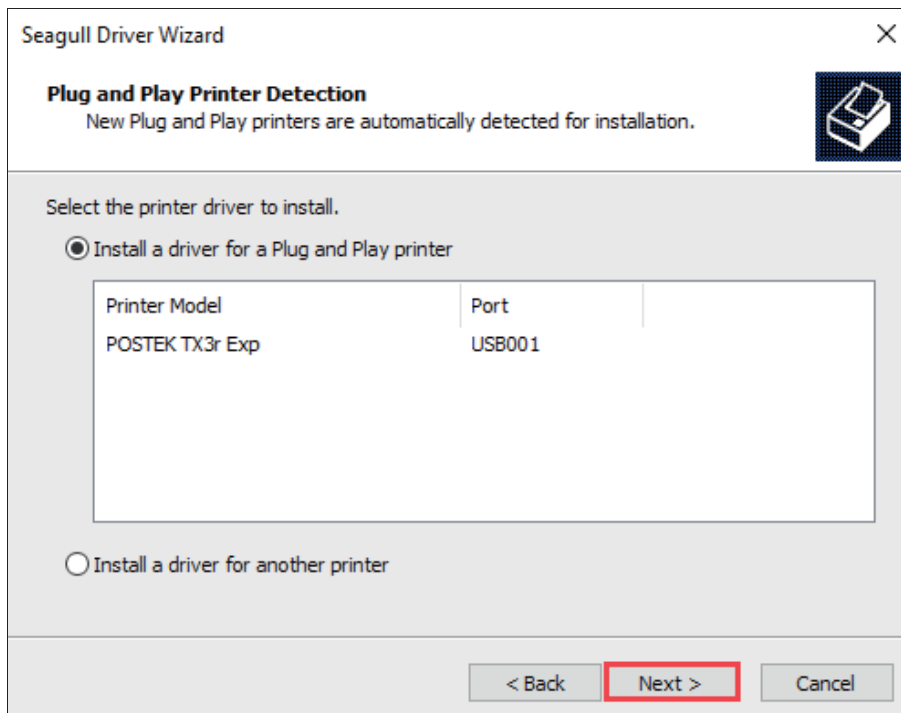

Figure 2-31 Printer Detected
7. The connected printer will be detected, click “Next”, as shown in Figure 2-31.